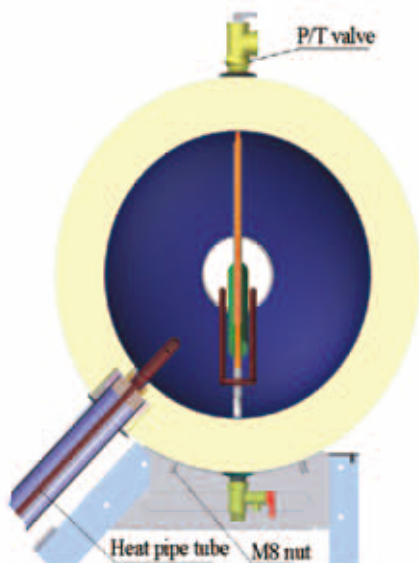

Fig 5
A. Set the water tank symmetrically on the supporting frame and secure with 4 sets of M8 nuts, please see Fig 5